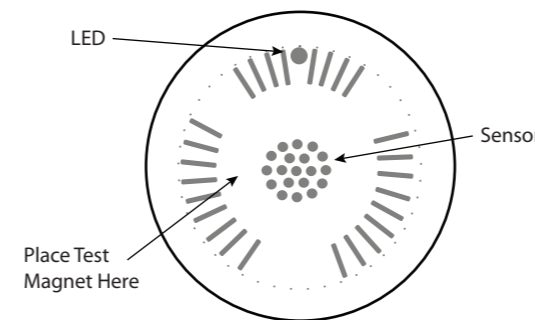

Figure 5 Front cover of detector head
- (1) Use a vacuum cleaner to clean the dust around the vent holes of gas detector cover.
- (2) Carry out a regular or weekly test of gas detectors. This test should only be carried out if the LED is a steady GREEN.
- (a) To test the detector, place a magnet as indicated in figure 5 on the front of the detector. The detector should sound and the LED will change to RED.